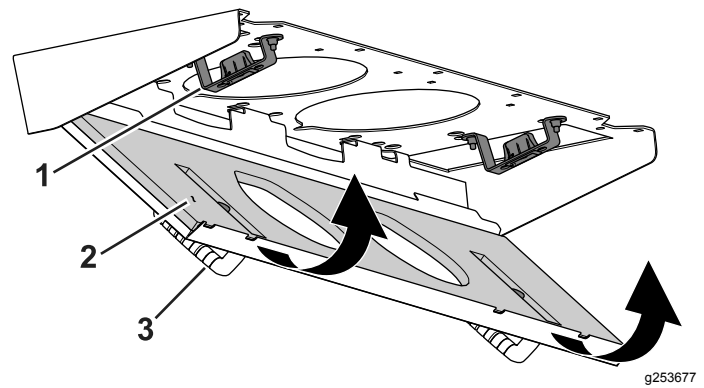

Figure 117
4. Rotate the filter screen around the tabs until the latch locks into the latch-mount assembly (Figure 117).